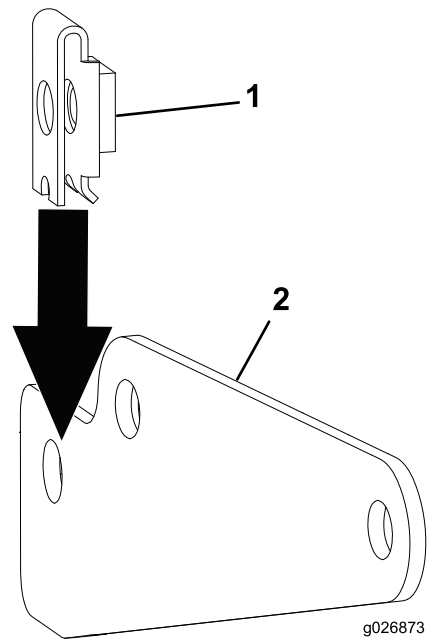

Figure 7
1. Install the retainer nut to the pivot bracket (Figure 7).